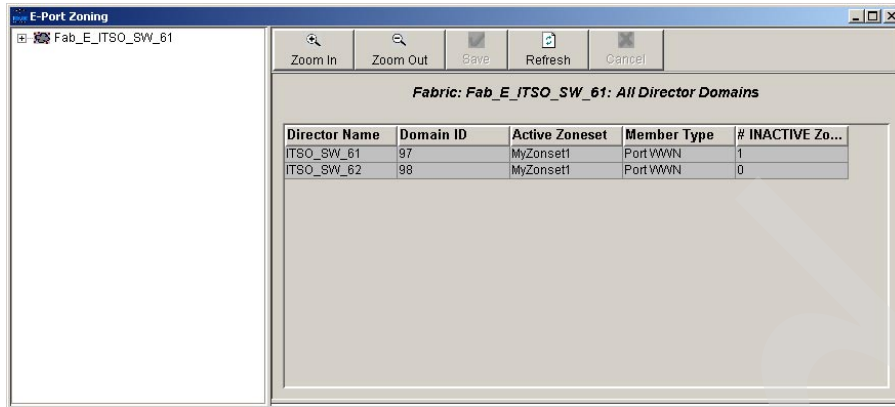

Figure 5-26 Zoneset propagation
- If activation was successful, the zone set information will be propagated to all other Directors belonging to the fabric. The zone set and zone previously created in ITSO_SW_61 has also been sent to ITSO_SW_62, which is in the fabric shown in Figure 5-26.